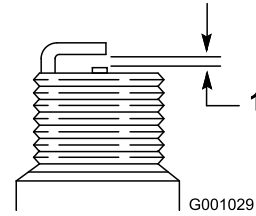

Figure 47
8. Set the gap between the electrodes on the spark plug at 0.030 inch (0.76 mm) (Figure 47).